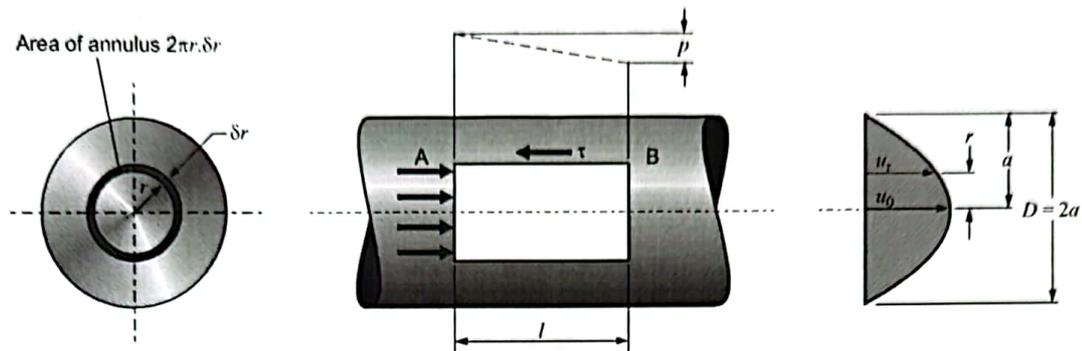

Figure 11 Derivation of Poiseuille's equation
To derive Poiseuille's equation, which applies to laminar flow along a tube, consider the motion indicated in Figure 11. Over each cross-section of the tube, the piezometric pressure is constant, and this pressure falls continuously along the tube. Suppose that between cross-sections A and B, separated by length l of the tube, the fall in pressure is p . Then the force exerted by this pressure difference on the ends of a cylinder having radius r , and its axis on the centre line of the tube, is $p\pi r^2$. Over any cross-section of the tube, the velocity varies with radius, having a maximum value of u_0 at the centre and falling to zero at the wall; let the velocity at radius r in any cross-section be denoted by u_r . Then the shear stress τ , in the direction shown in Figure 11, due to viscous action on the curved surface of the cylinder, is given by:
(Note that $\frac{du_r}{dr}$ is negative so that the stress acts in the direction shown in Figure 11.)
This result shows a parabolic velocity distribution across a section, as shown on Figure 11, and that the velocity on the centre line, given by putting $r = 0$ in Equation (11), is:
With a turbulent flow, the Poiseuille's derivation is not applicable because of the continuous mixing process in the flow. Across the curved surface of the cylinder having radius r in Figure 11, this mixing creates a continuous unsteady and random flow into and out of the cylinder, so that the apparent shear stress on this surface is greater than the value given in Equation 9. Because of the mixing, the distribution of velocity over a cross-section is more uniform than the parabolic shape deduced for laminar flow, shown in Figure 11.